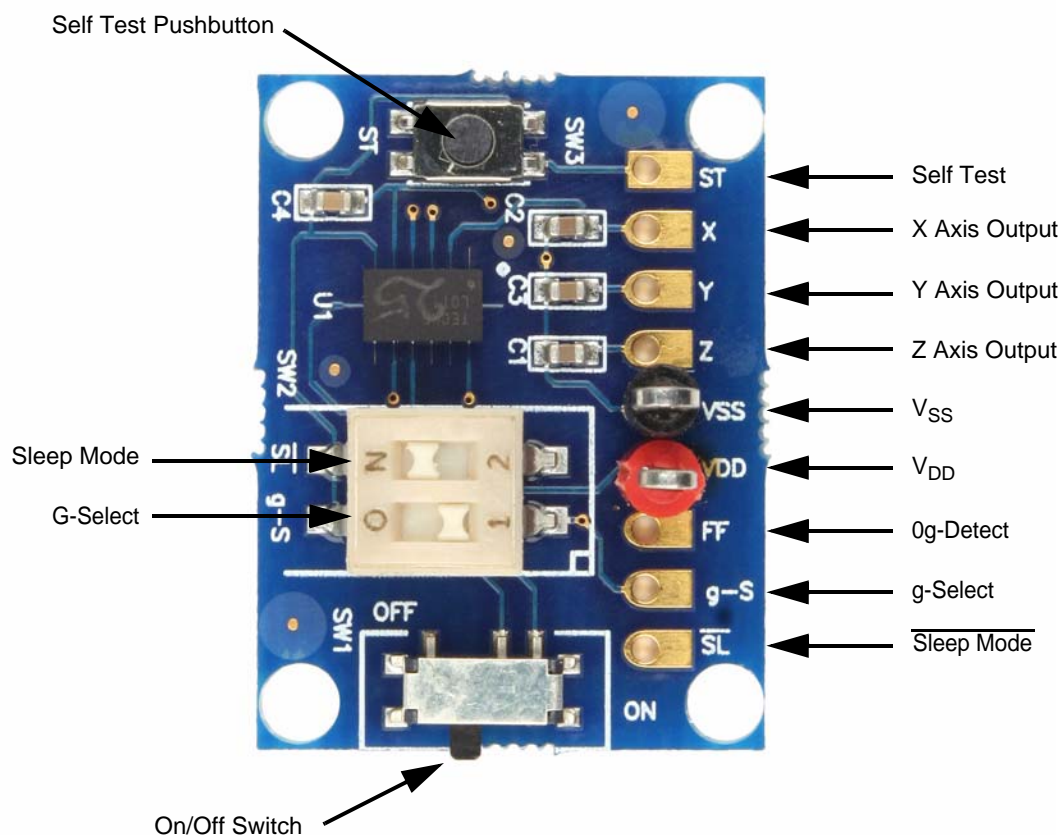

Figure 4. Evaluation Board Components
2. Turn the side on/off switch into the “on” position as shown in Figure 4. The on/off switch provides power to the accelerometer and helps preserve battery life if a battery is being used as the power source. Therefore SW1 must be set toward the “on” position for the accelerometer to function.
3. Using a thin pointed tool turn the sleep mode dipswitch (SW2) to the “on” position as shown in Figure 4, or you can also power the sleep mode using the solder pad available. This enables the device. A low signal (0) will bring the board into sleep mode which puts it in a power saving mode. In this state there will be no X, Y or Z outputs on these output solder pads. For normal device operation though the sleep mode must be in the “on” position. This will activate the device showing X, Y and Z outputs on the X, Y and Z output pads.
6. The g-Select is shown in Figure 4 (SW2) in the lower of the two possible g-modes. You can also use the solder pad “G_S” to access and change the g-mode.